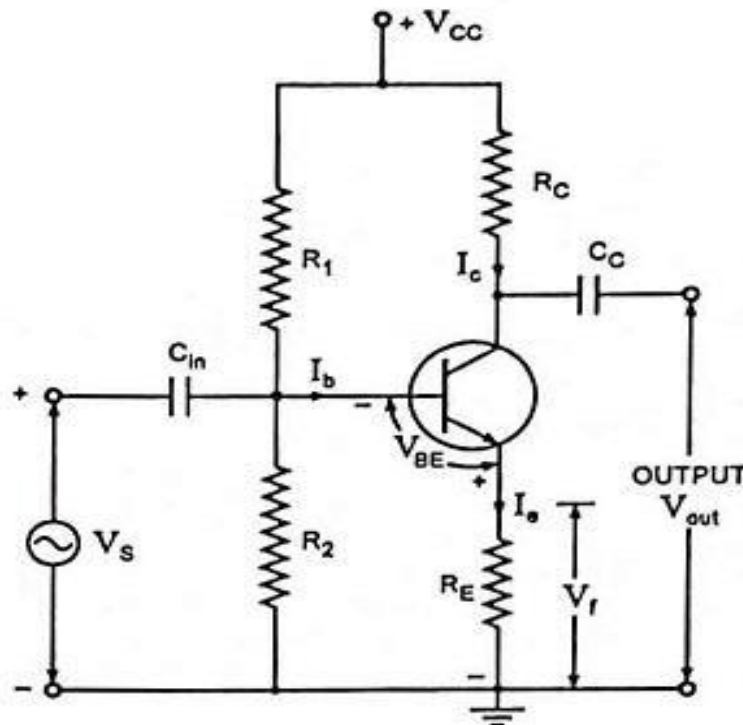

Fig. 15.1: Circuit Diagram of negative feedback amplifier
1. Build circuit of negative feedback amplifier on breadboard as per Figure 15.1.